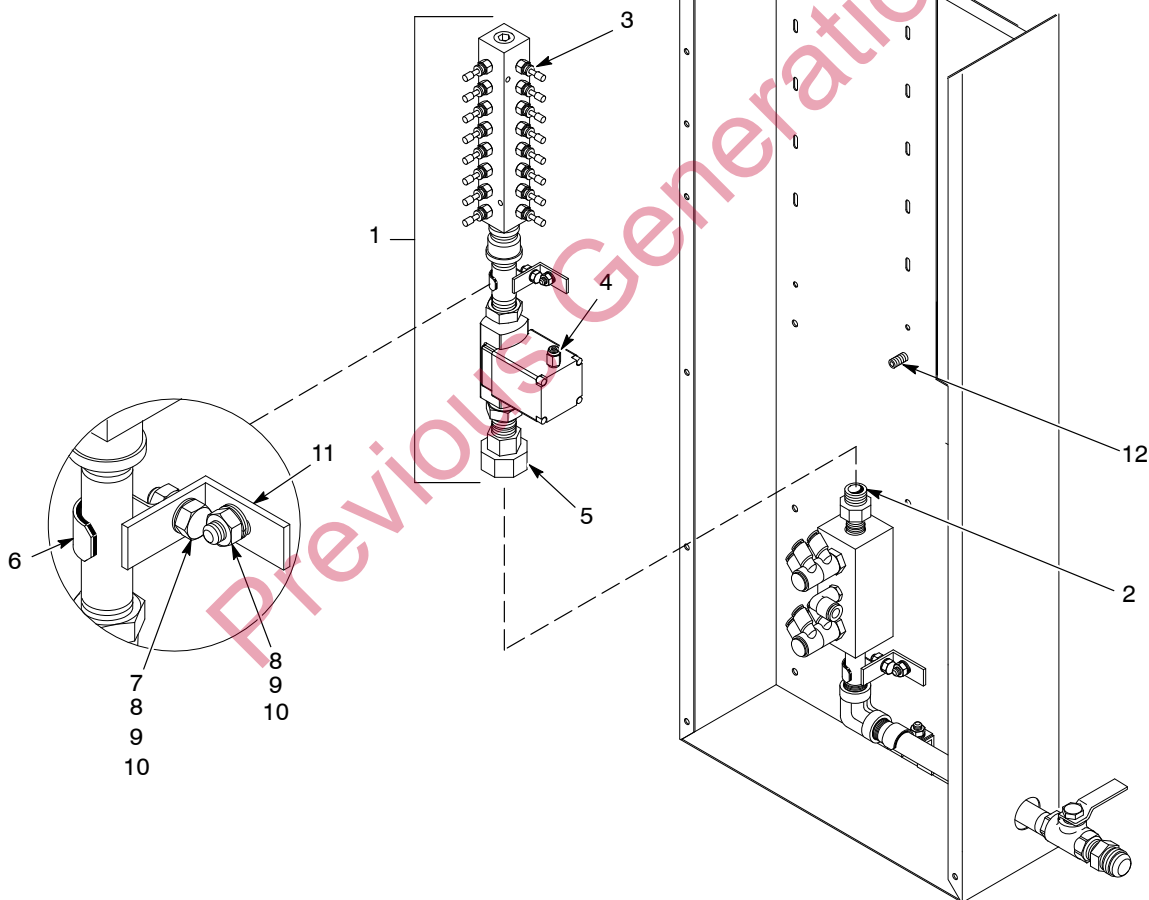

Figure 2 Installing the Manifold
2. Remove the cover from the pneumatic section cabinet (2).
3. Remove the pipe plug (1) from the main air manifold (4).
4. Wrap PTFE tape around the threads of the supplied pipe nipple (5) and male half of the union (6). Install the nipple into the main air manifold, and the union onto the nipple.
5. See Figure 2. Assemble the pipe clamp assembly (6–11) onto the manifold assembly.
6. Connect the assembly by joining the male (2) and female (5) halves of the union. Tighten the nut on the female half.
7. Secure the pipe clamp assembly to the mounting stud (12) using the hex nut and washers (8, 9, 10).
1. See Figure 2. Determine how many guns will be controlled by the modular gun control system. Remove the appropriate number of plugs from the 4-mm fittings (3).
3. Connect clear, 4-mm air tubing from the manifold fittings (3) to the gun air fitting at the back of each gun.
4. Connect the blue, 6-mm air tubing to the valve's 6-mm valve air fitting (4). Connect the other end to the INTERLOCK air fitting on the booth control panel.